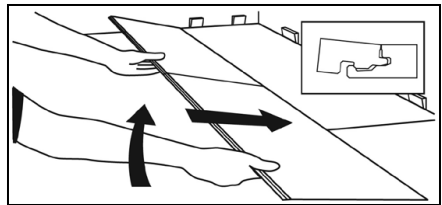

Fig. 20
3. Angle the long end of the next board in the second row to lock into the first row while positioning the short end of the board over the groove from the previous board. Lock and fold into place. (**Fig. 20**).